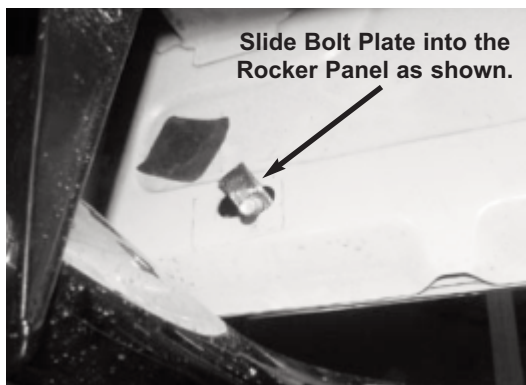

Figure 3 - Rear Bolt Plate
Attach the front support straps by installing the bolt plate into the rocker panel using (1) 3/8" flat washer/lock washer and 3/8" hex nut. Attach the other end of the support strap to the front brackets using the (1) 3/8" x 1 1/2" bolt, (2) 3/8" flat washer, (1) lock washer and (1) 3/8" hex nut. (**See Figure 3, 5**)
7. Attach the step bars to the front and rear brackets using (1) 1/2" - 13 x 2" bolt, (1) 1/2" flat washer/lock washer per bracket, and hand tighten. Torque M12 bolts first to 65 ft/lbs. and then tighten all remaining fasteners.